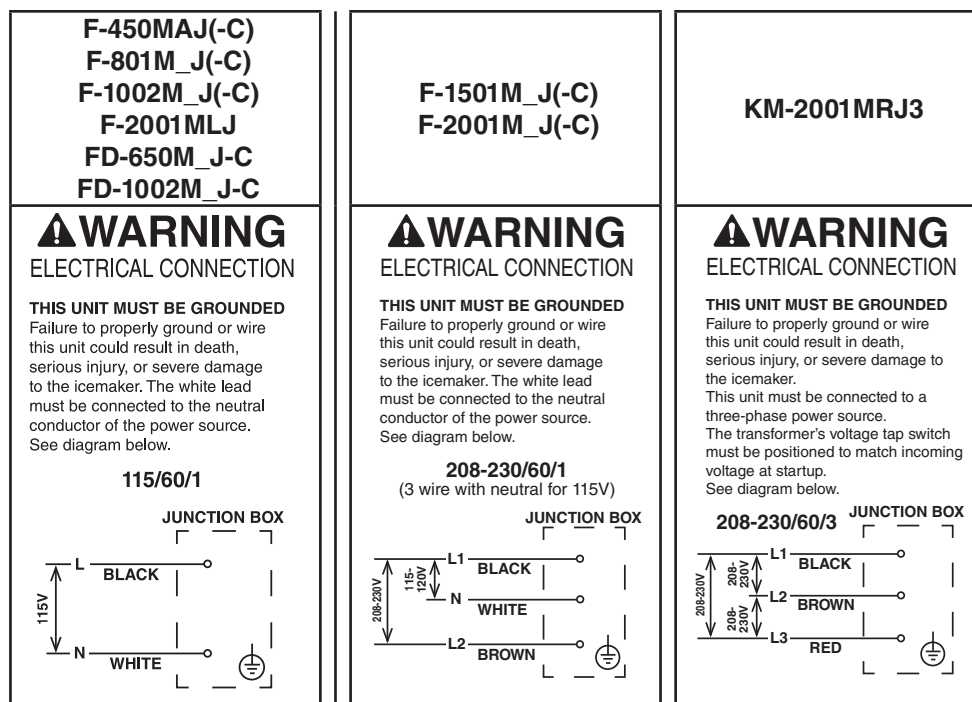

Fig. 3
- Electrical connection must be made in accordance with the instructions on the "WARNING" tag, provided with the pig tail leads in the junction box. See Fig. 3.